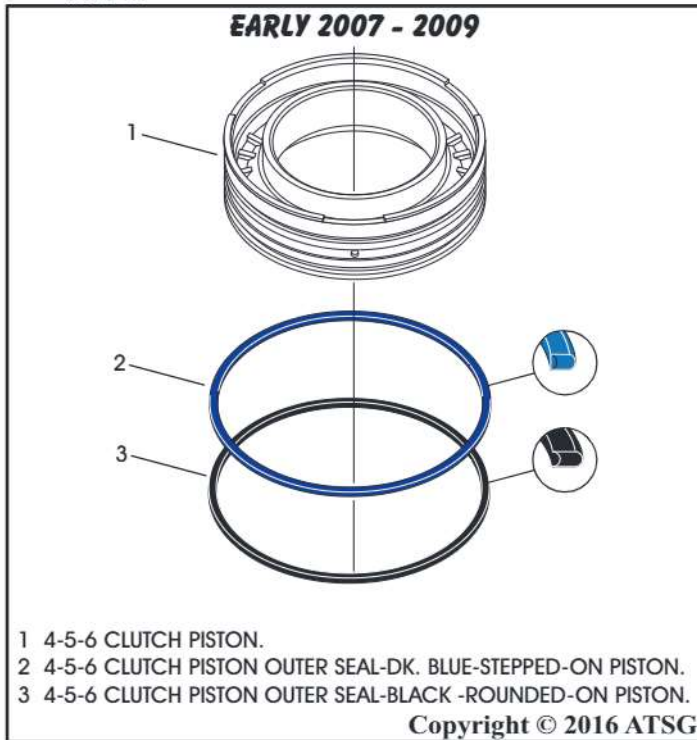

Figure 102
40. After cleaning and inspecting all 4-5-6 components, install the piston seals in the order shown in Figures 102, 103, 104 and 105. Be certain to correctly identify the correct early or late 4-5-6 components as shown in the figures below.